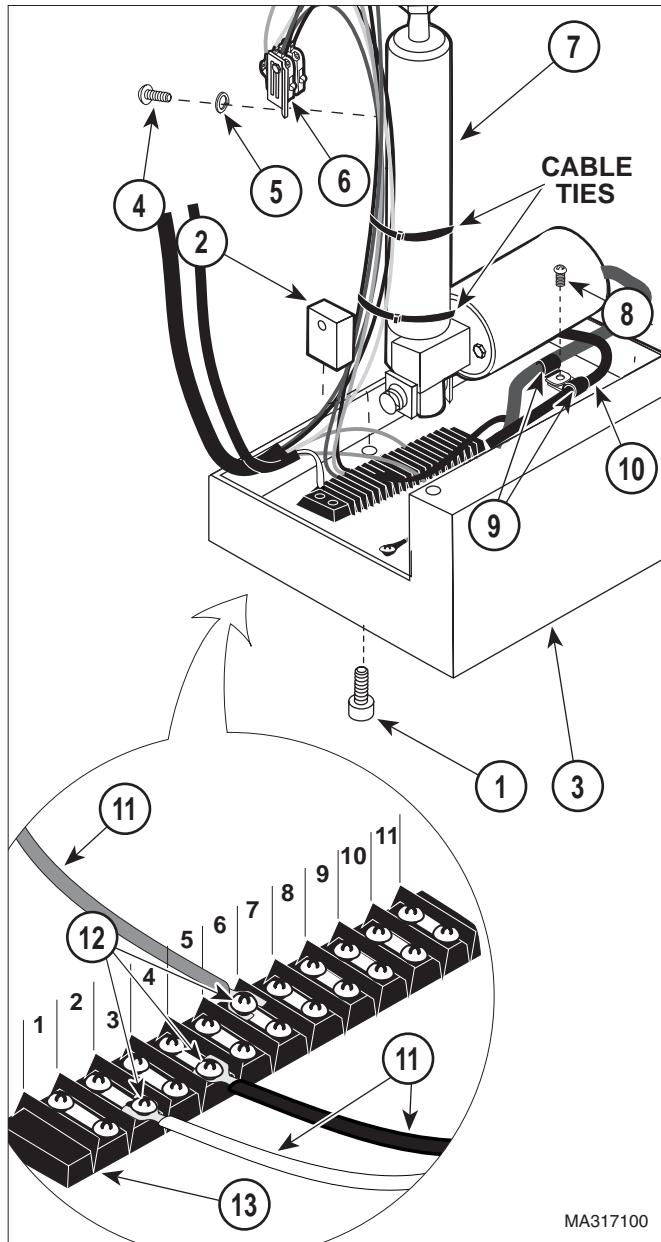
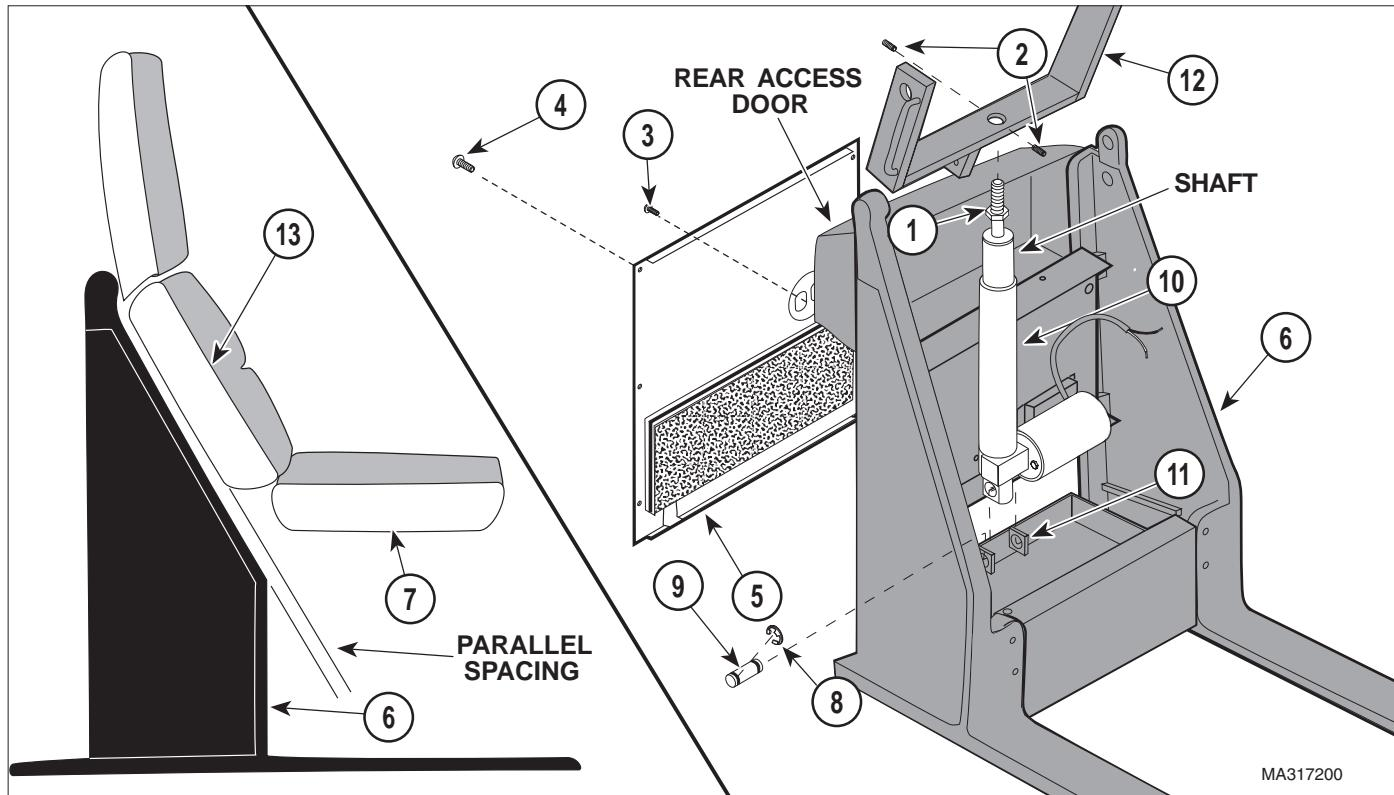

Figure 4-6. Wires Disconnection / Connection
Figure 4-7. Base Actuator Removal / Installation
- (1) Remove gas spring (Refer to para 4.5).
- (2) Remove stirrup from patient's right side of chair.
- (3) Lay chair onto its right side (patients).
- (4) Remove two screws (1, Figure 4-6) and gas spring base mounting bracket (2) from base casting (3).
- (5) Remove two screws (4), lockwashers (5), and switch bracket assembly (6) from shaft of base actuator (7).
- (6) Cut cable ties securing wires to base actuator (7).
- (7) Remove screw (8) and two cable clamps (9) from base casting (3). Remove cable clamp (9) off of base actuator cable (10).
- (8) Tag three actuator wires (11); then loosen three terminal screws (12) and disconnect three actuator wires (11) from terminal block (13).
- (9) Loosen jam nut (1, Figure 4-7).
- (1) Screw jam nut (1, Figure 4-7) onto threads of base actuator (10) fully.
- (2) If unit does not have two setscrews (2), apply permanent threadlocking adhesive (Loctite 262) to threads of base actuator (10).
- (3) While supporting seat section (7), screw new base actuator (10) into chair yoke frame (12) approximately the same distance as old base actuator used to be.
- (4) While supporting seat section (7), connect base actuator (10) to bracket (11) with clevis pin (9) and two e-rings (8).
- (5) Connect three actuator wires (11, Figure 4-6) to terminal block (13) and secure by tightening three terminal screws (12).
- (6) Install one cable clamp (9) onto base actuator cable (10); then secure both cable clamps (9) to base casting (3) with screw (8).
- (7) Install switch bracket (6) on shaft of base actuator (7) and secure with two lockwashers (5) and screws (4).
- (8) Secure wires to base actuator (7) with three cable ties.
- (9) Raise chair to upright position.
- (10) Plug chair power cord into wall outlet.
- (11) Run SEAT UP function all the way up and TABLE DOWN function all the way down.
- (12) If lower back casting (13, Figure 4-7) *is* parallel with angled surface of side upright (6), go to step 16.
- (18) Lay chair onto its side.
- (19) Install gas spring base mounting bracket (2, Figure 4-6) on base casting (3) and secure with two screws (1).
- (20) Raise chair to upright position.
- (21) Install gas spring (Refer to para 4.5).
- (22) Install stirrup.